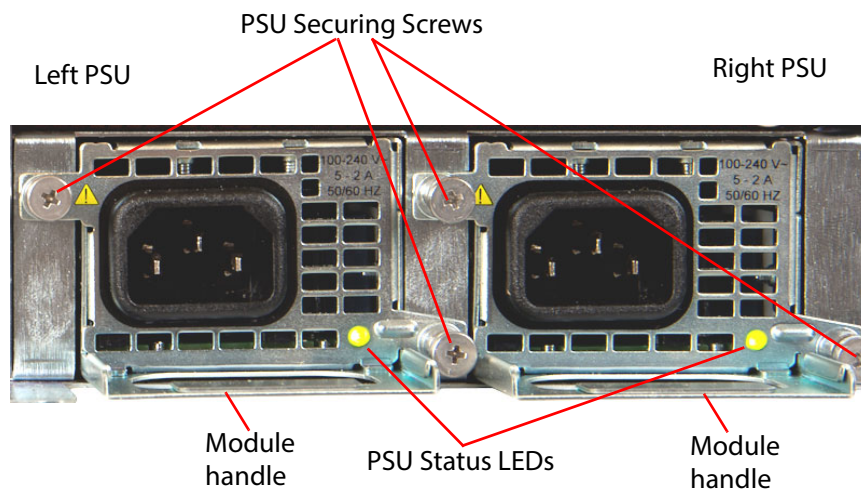

Figure 104 MV-820 Multiviewer Rear PSU modules
Two PSU modules are fitted into the rear of the MV-820 chassis. Each is secured with two fixing screws, see Figure 104.
2. Unscrew two PSU securing screws, see Figure 104.
1. Note the orientation of a PSU module in the MV-820 chassis, see Figure 104.
3. Tighten the two PSU securing screws, see Figure 104. Do not over-tighten the screws.